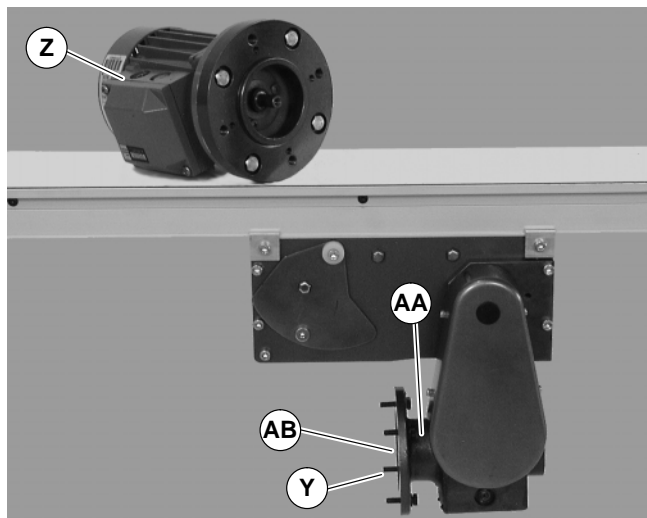

Figure 21
4. Remove four screws (Y of Figure 21). Detach motor (Z) from gear reducer (AA). Retain motor output shaft key (AB).